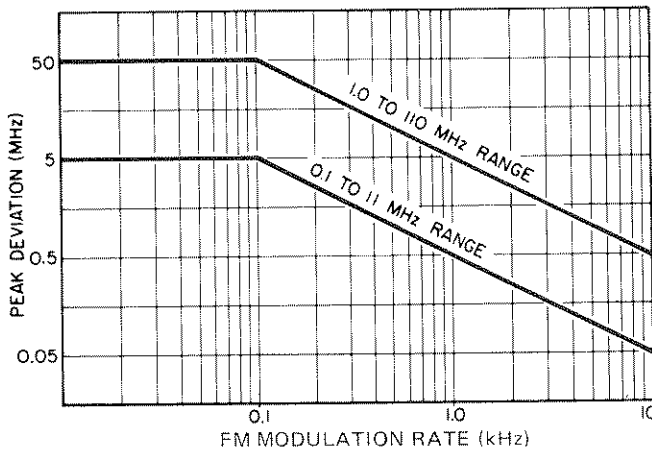

Figure 3-8. Maximum Peak Deviation versus Frequency Modulation Rate
3-15. Internal fm (1 kHz rate) may be used in CW or any sweep mode. Internal fm produces a frequency deviation of 7.5 kHz $\pm 5\%$ peak on range 11, and 75 kHz $\pm 5\%$ on range 110. The internal fm rate is 1 kHz. External fm is available for any SWEEP mode, but not useable in CW mode. External fm deviation and rate limits are shown in Figure 3-8.
- 11 EXT FM. Input for modulation signals at rates up to 10 kHz (see Figure 3-8). Modulation (deviation) sensitivity is 5 MHz/volt in range 110; 0.5 MHz/volt in range 11.
External fm may be applied in any sweep mode, except CW mode. External fm limits are shown in Figure 3-8.